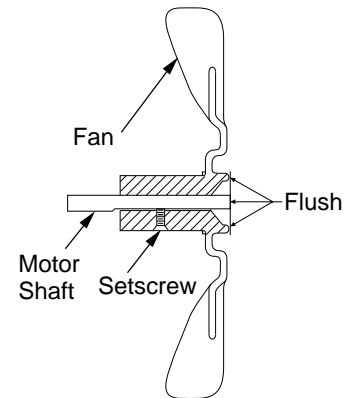

Figure 27 - Fan Cross Section
6. Replace fan on motor shaft. Place fan hub flush with end of motor shaft (see Figure 27).